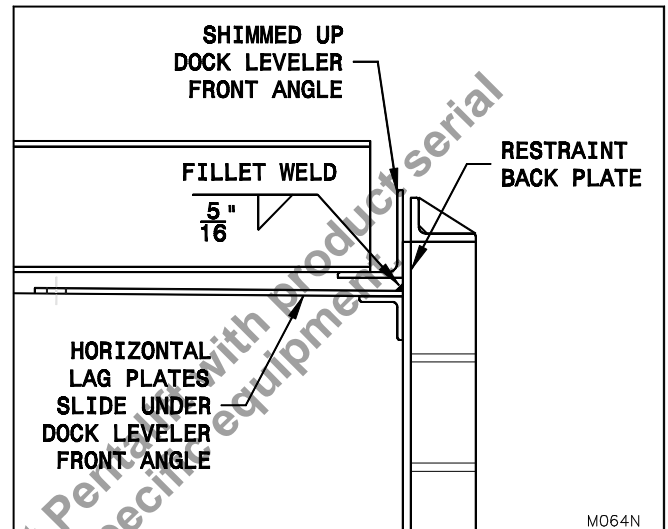

Figure 12: Horizontal Lag Plate Installation
- a) If there is a gap (as a result of shimming the dock) between the front angle of the dock leveler and the dock leveler pit floor of $\frac{1}{4}$ " or more, place the horizontal lag plates onto the dock leveler pit floor, directly behind and perpendicular to the back plate of the restraint, and slide the horizontal lag plates under the front angle of the dock leveler until they butt up against the back plate of the restraint. See "Figure 12: Horizontal Lag Plate Installation" on page 18. (If no gap is present, proceed to item 1.g) and follow the Pour-In Dock Leveler instruction.)
- d) Pull the restraint away from the wall and place a minimum $\frac{5}{16}$ " fillet weld the full width of the horizontal lag plate to the back plate of the restraint. See "Figure 12: Horizontal Lag Plate Installation" on page 18.
- f) Proceed to item 2, page 16.